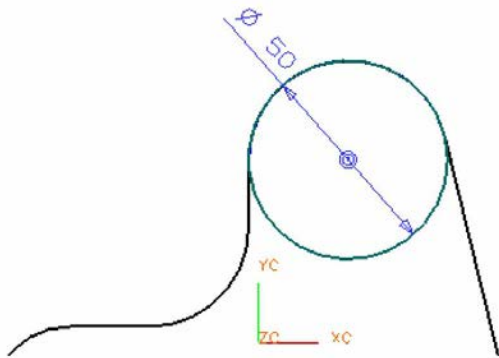

Figure 6-84 Sketch for the third feature
- Draw the sketch for the third feature and extrude it, refer to Figures 6-84 and 6-85.
2. Draw the sketch for the third feature which is a circle of 50 mm diameter, as shown in Figure 6-84.